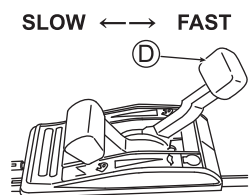

Fig. 20
5. Adjust the mowing speed with the gearshift lever (D). (See Fig. 20)